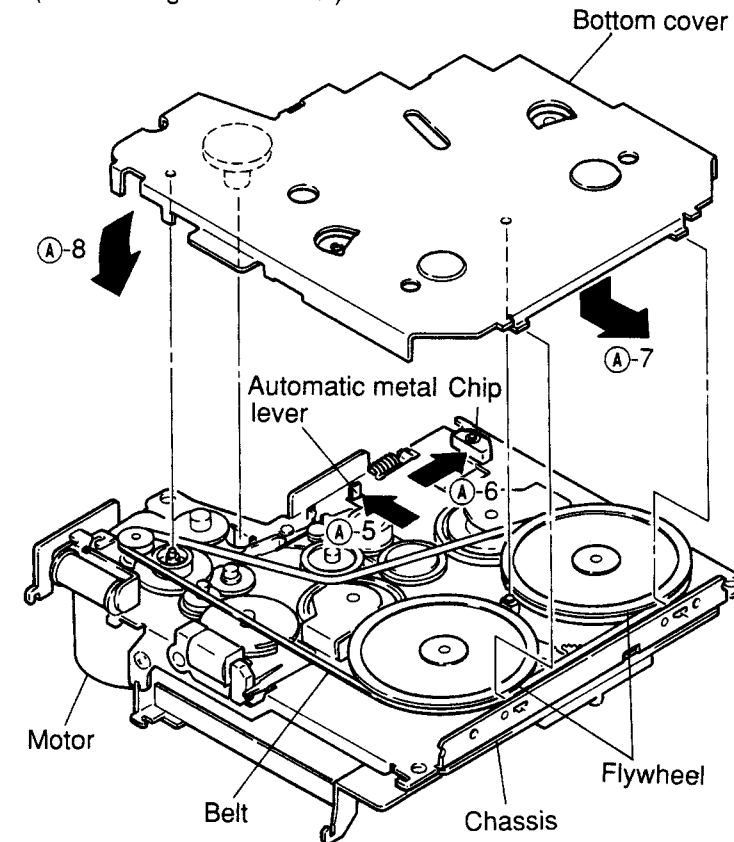

Figure 3
- (9) Turn the mechanism around as shown in Figure 3.
- (10) Pull the automatic metal lever in the direction ⑤-5 and the RF solenoid chip in the direction ⑤-6 as shown in Figure 3.
- (11) Insert the hooks of the bottom cover into the chassis in the direction ⑥-7, and then join the part ⑥-8 of the bottom cover to the chassis slowly, making sure that the 3 points indicated with the straight lines in the Figure 3 are fitted properly.
If there are troubles in mounting the bottom cover, do not apply force but remove the bottom cover once again and check the positions of the individual parts. (Refer to Figure 3.)